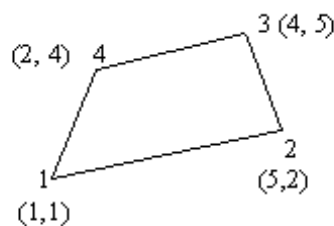

Figure 5
5. Establish the Jacobian operator [J] of the two dimensional element shown in figure 5 also find the Jacobian determinant. [16]